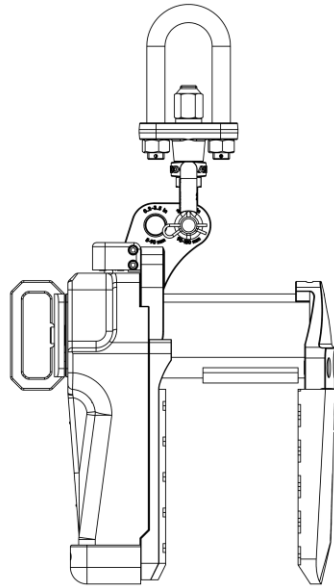

Figure 1.2: Position 2
- + Hook the Swivel Shackle at position 2 when the slab thickness is from $3 \frac{9}{16}$ " (90 mm) to $5 \frac{7}{8}$ " (150 mm) (Figure 1.2).